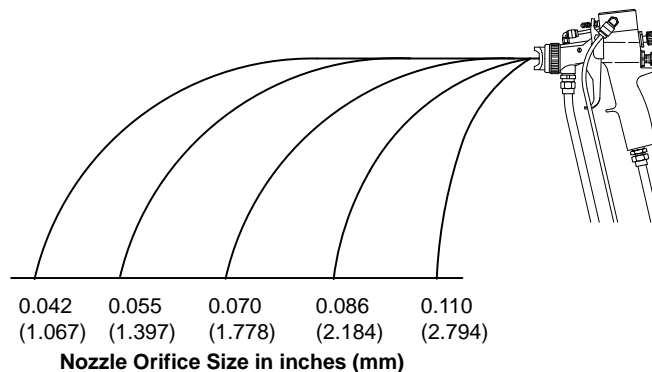

Fig. 15
NOTE: A larger fluid nozzle at a reduced adhesive pressure will maintain the same flow rate, but slow down the fluid stream. See Fig. 15. This allows the atomizing air to act on the fluid longer and improve the atomization.
- I. Check the atomization quality again. If necessary, increase the gun air supply pressure with the air regulator (E) in 5 psi (0.35 bar) increments until you have the desired atomization.
- J. If the atomization is still unacceptable, install a larger fluid nozzle size to reduce the fluid stream. Refer to Fig. 15. See page 8 to remove and install a fluid nozzle.